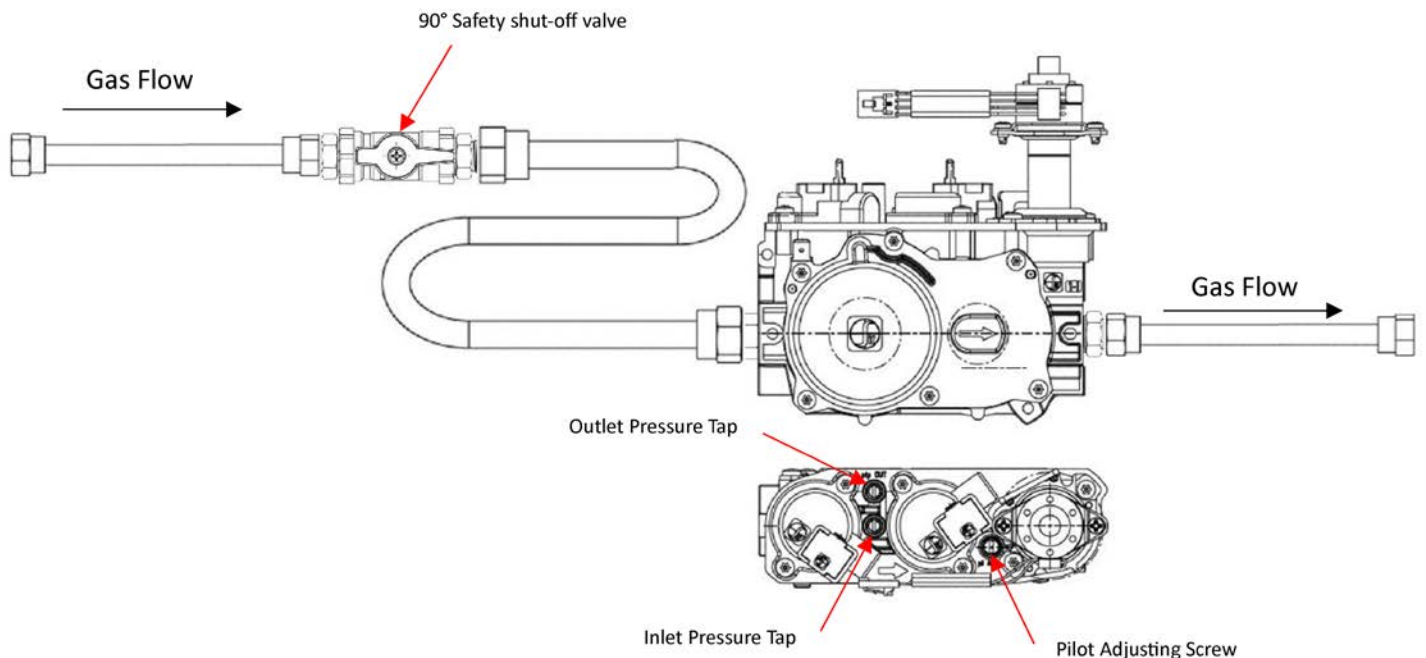

Figure 28 - Connecting Incoming Gas Line to Flex Gas Line
1. Route gas flex line supplied with fireplace to gas pipe coming into the fireplace (Figure 28).